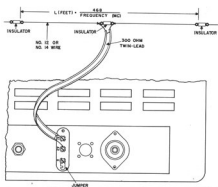

Fig. 5. Doublet Antenna Installation
**DOUBLET ANTENNA** - The overall length (in feet) of the doublet antenna is determined by dividing 468 by the frequency (in megacycles) at the high end of the range to which you wish to listen. Construct the antenna as shown in Fig. 5. A doublet antenna is directional broadside to its length and should be so oriented with respect to a desired station for maximum signal pickup.